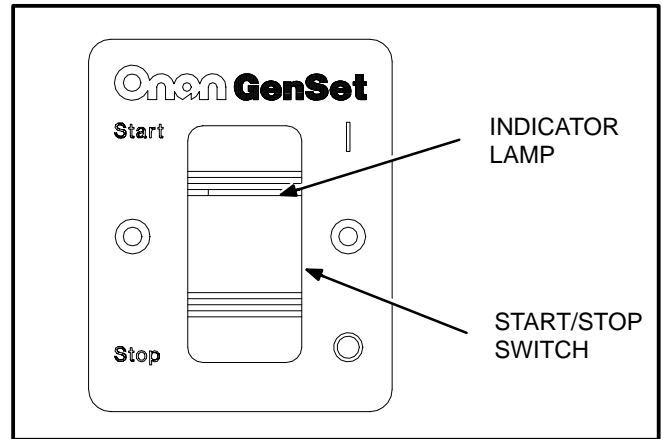

FIGURE 7-4. REMOTE PANEL WITH START/STOP SWITCH ONLY
- Remote panel with start/stop switch and indicator lamp only (see Figure 7-4).